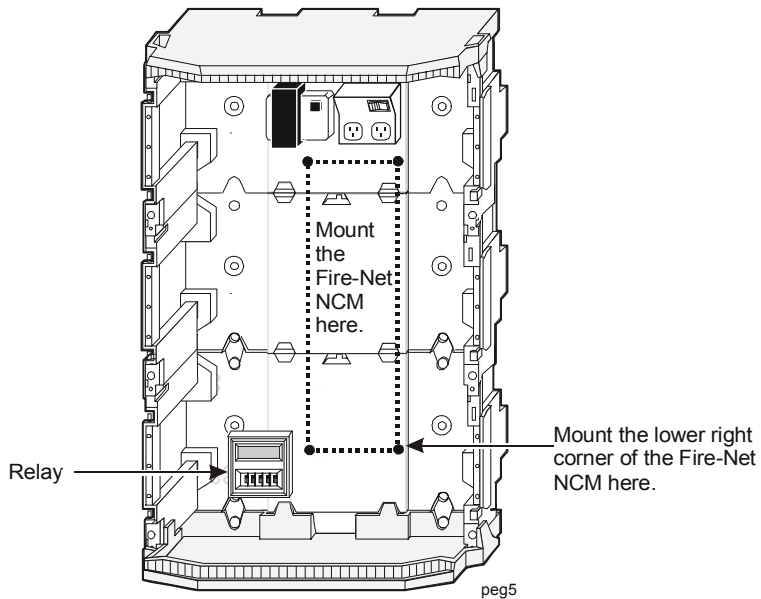

Figure 10: Mounting the Fire-Net NCM
1. Plug the timing relay into the socket located at the lower left corner of the enclosure (Figure 10).